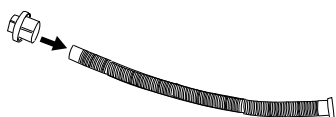
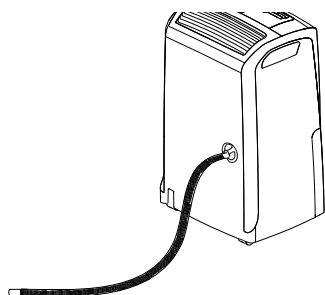
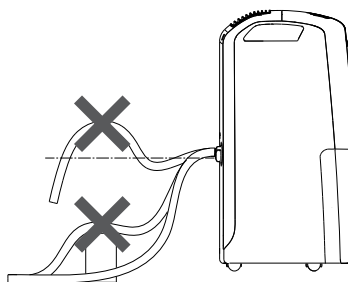

fig. 3
fig. 4
fig. 5
- 2) Insert the drain cap **1** in the condensate drain hose (8) till the end (fig. 3) then screw the cap into the spout. (fig. 4).
- 3) Make sure the end of the hose is no higher than the spout (Fig. 3) or water could remain in the tank. Make sure there are no kinks in the hose (Fig. 5).